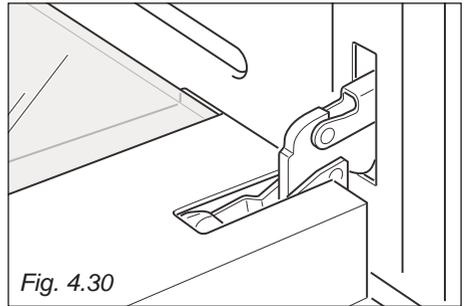

Fig. 4.30
- Open the door to the full extent (fig. 4.30).